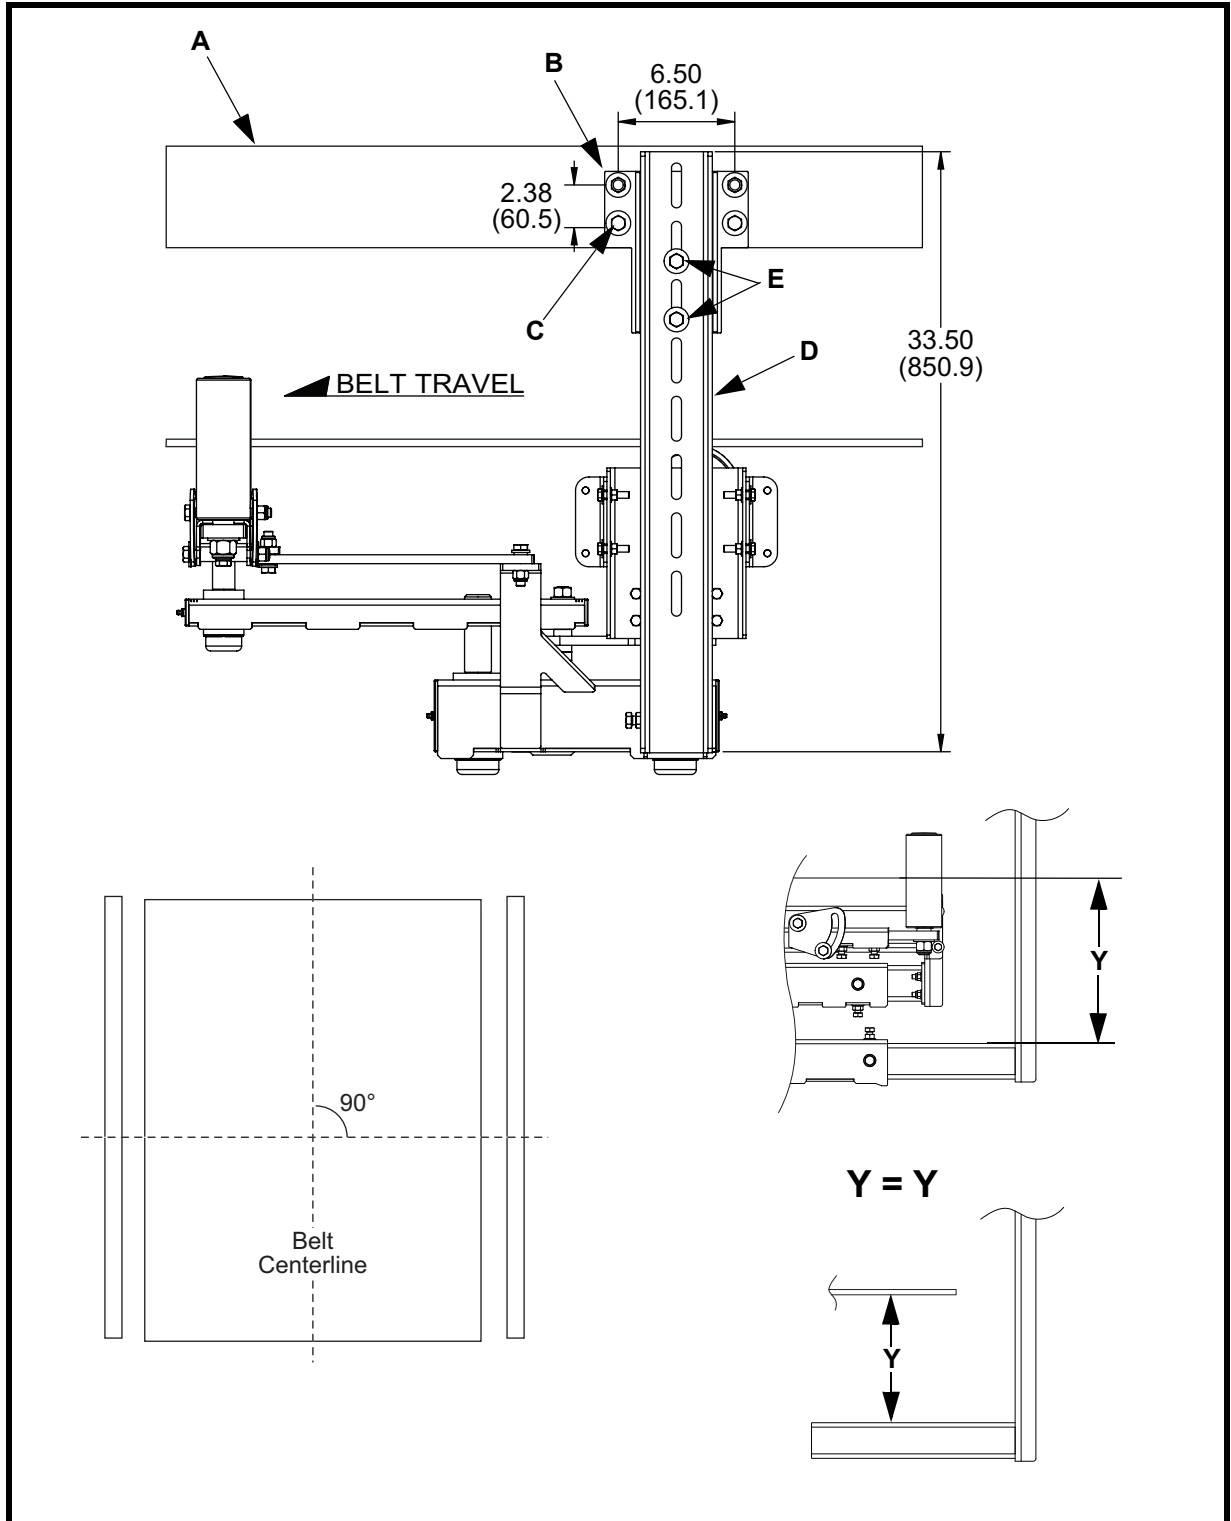

Figure 1. Mounting Dimensions–Martin® Tracker™ HD (Lower Unit)
2. Mark location of mounting brackets (B) on stringers (A). See Figures 1 and 2 for mounting dimensions. Make sure telescoping tube mounting holes are accessible from both sides.
- a. If bolting, drill or cut 9/16-in. holes in stringers through mounting holes in brackets (B). Install cap screw, flat washers compression washer, and nut (C) in each hole to secure mounting brackets to stringers.
- b. If welding, clean stringer of rust and dirt. Then weld mounting brackets (B) to stringers.
4. Mount telescoping tube (D) on far side stringer using cap screws, flat washers, compression washers, and nuts (E).
6. Slide operator side telescoping tube into Martin® Tracker™ HD assembly and fasten to bracket (B) using cap screws, flat washers, compression washers, and nuts (E).
7. Center assembly on belt and tighten telescoping tube set screws (F).
8. Raise entire assembly up into belt 1 inch and tighten mounting bolts (E).
9. Position each sensing roll 1/4 inch from belt and tighten set screws (G).